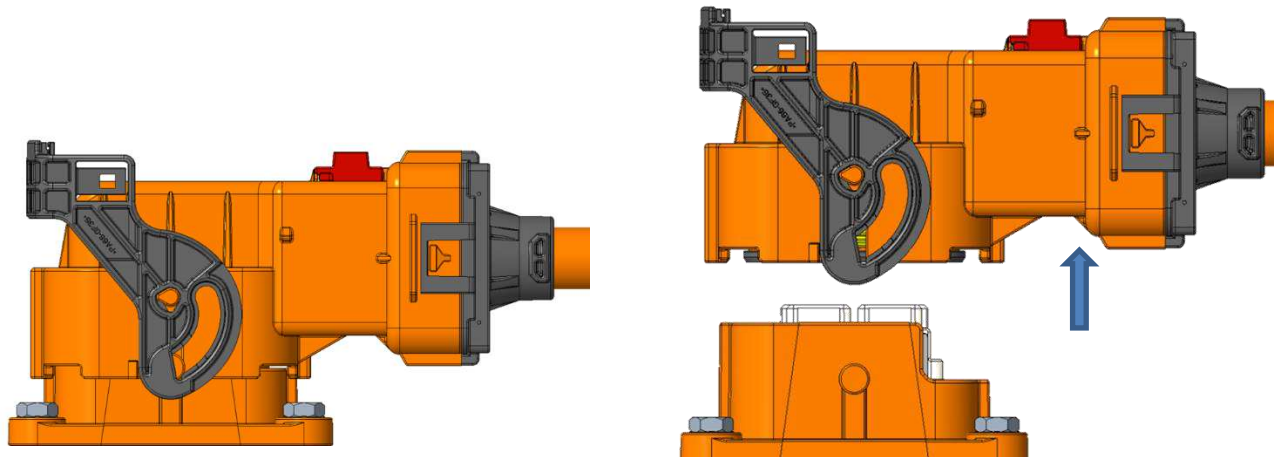

Figure 25: Plug and Header Un-mating
3. Holding the connector body pull the plug until it is completely separated from the header as shown in Figure 25.